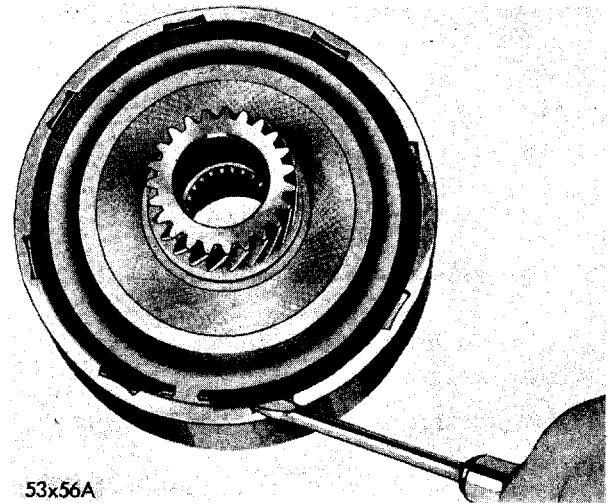

Fig. 28—Removing Kickdown Sun Gear Snap Ring
(1) Using a screwdriver, remove the kickdown sun gear snap ring as shown in Figure 28. The ring is a select fit. Identify to aid in reassembly.